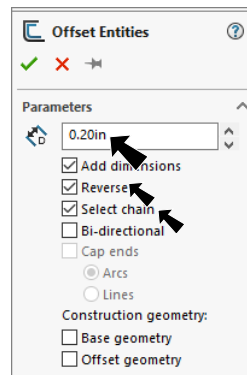

Fig. 3
Step 2. In the Offset Entities Property Manager set: under Parameters, **Fig. 3**